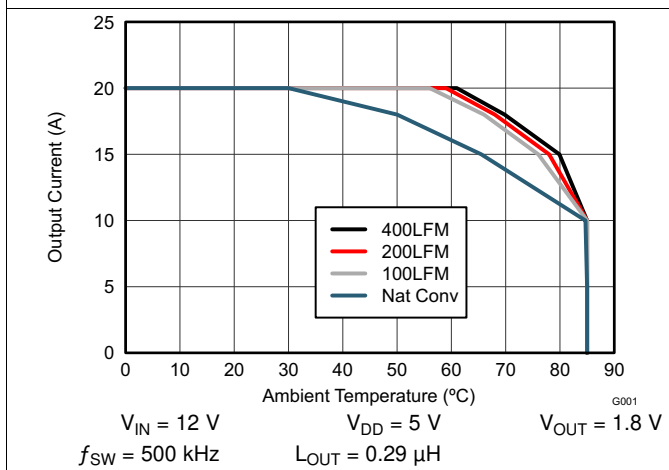
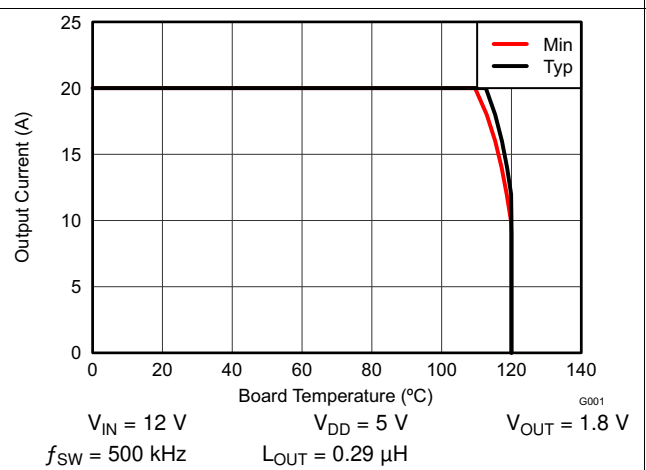

Figure 3. Safe Operating Area (SOA) – PCB Horizontal Mount
Figure 4. Typical SOA
The SOA curves in the CSD95379Q3M data sheet give engineers guidance on the temperature boundaries within an operating system by incorporating the thermal resistance and system power loss. Figure 3 and Figure 4 outline the temperature and airflow conditions required for a given load current. The area under the curve dictates the safe operating area. All the curves are based on measurements made on a PCB design with dimensions of 4 in (W) × 3.5 in (L) × 0.062 in (T) and 6 copper layers of 1-oz copper thickness.